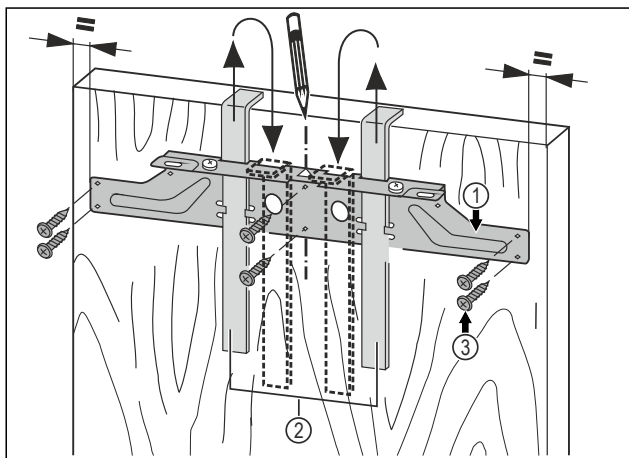

Fig. 21
- Hang the fastening bar *Fig. 21 (1)* with the mounting aids on the inside of the unit door *Fig. 21 (2)*.
- Align the fastening bar *Fig. 21 (1)* in the centre of the door.
- Tighten the mounting bar *Fig. 21 (1)* with at least 6 screws *Fig. 21 (3)*.
- Screw the mounting bar *Fig. 21 (1)* to the edge with 4 screws *Fig. 21 (3)*.
- Pull the assembly devices *Fig. 21 (2)* upwards and push them, at an angle, into the receiving openings.